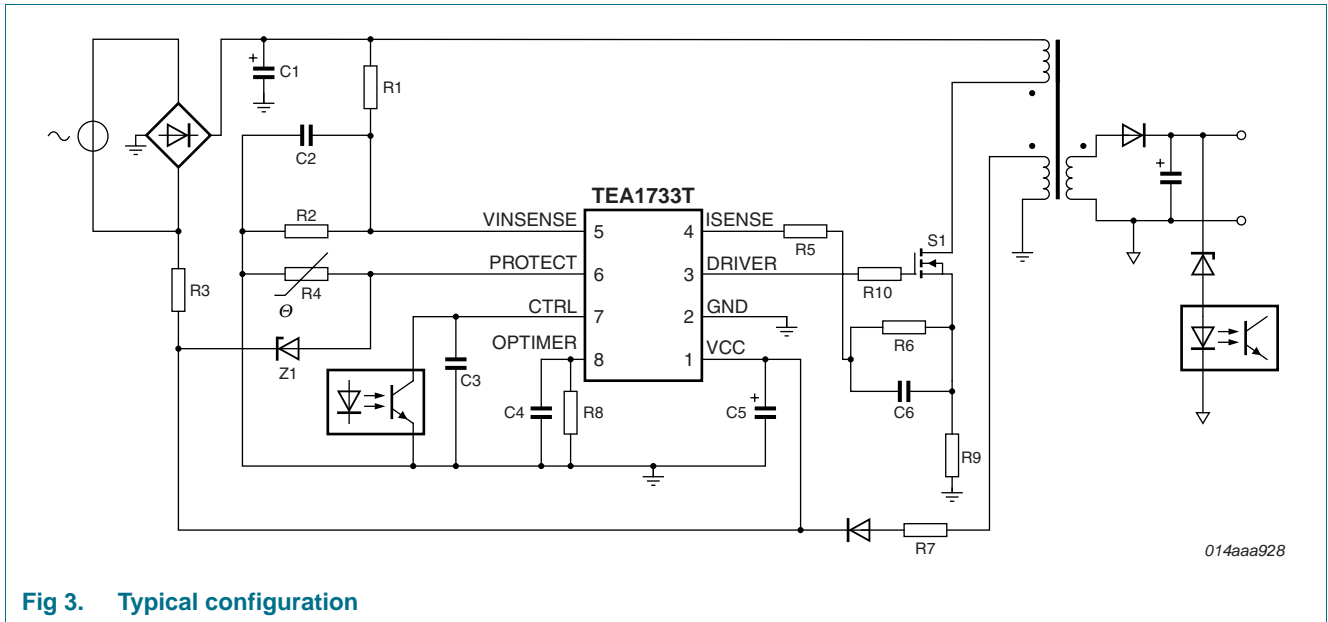
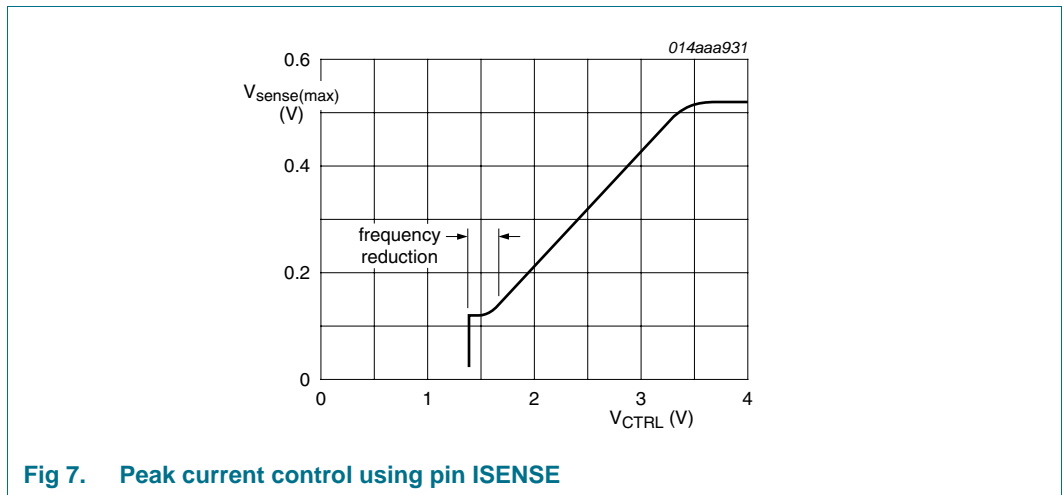
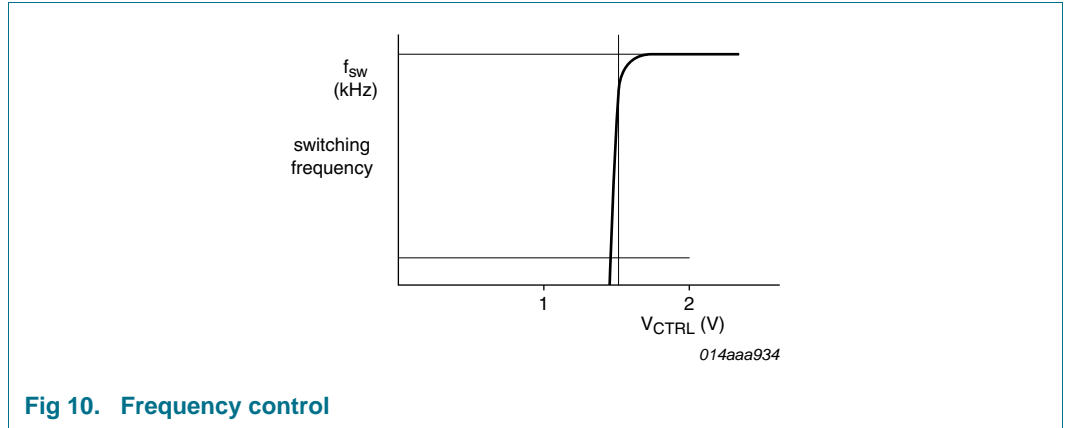

Fig 3. Typical configuration
Fig 7. Peak current control using pin ISENSE
Fig 10. Frequency control
The TEA1733(L) contains a flyback circuit controller, a typical configuration of which is shown in Figure 3.
If the OPTIMER pin is connected to capacitor C4 (see Figure 3), a temporary overload situation is allowed.  $V_{ctrl(I_{peak})}$  (see Figure 1) is set by the CTRL. When  $V_{ctrl(I_{peak})}$  is above 400 mV, the  $I_{IO(OPTIMER)}$  current (11 μA typical) is sourced from the OPTIMER pin. If the voltage on the OPTIMER pin reaches the  $V_{prot(OPTIMER)}$  voltage (2.5 V typical) the OverPower Protection (OPP) is triggered (see Figure 5).
The primary current is sensed by the ISENSE pin across an external resistor R9 (see Figure 3) and compared with an internal reference voltage. The internal reference voltage is proportional to the CTRL pin voltage (see Figure 7).
A soft start is made to prevent audible noise during start-up or a restart condition. Before the converter starts, the soft start capacitor C6 (see Figure 3) on the ISENSE pin is charged. When the converter starts switching, the primary peak current slowly increases as the soft start capacitor discharges through the soft start resistor (R6, see Figure 3).
In low power operation switching losses are reduced by lowering the switching frequency. The converter switching frequency is reduced and the peak current is set to 25 % of the maximum peak current (see Figure 7 and Figure 10).